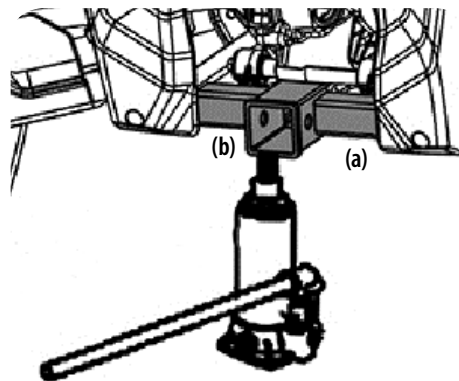

Figure 5-8
2. Jack the rear of the utility vehicle only after placing a wooden block under the right (a) and left frame tube (b) for securing the engine and then supporting it. Do not apply jack pressure on the steel plate directly under the engine. See Figure 5-8.